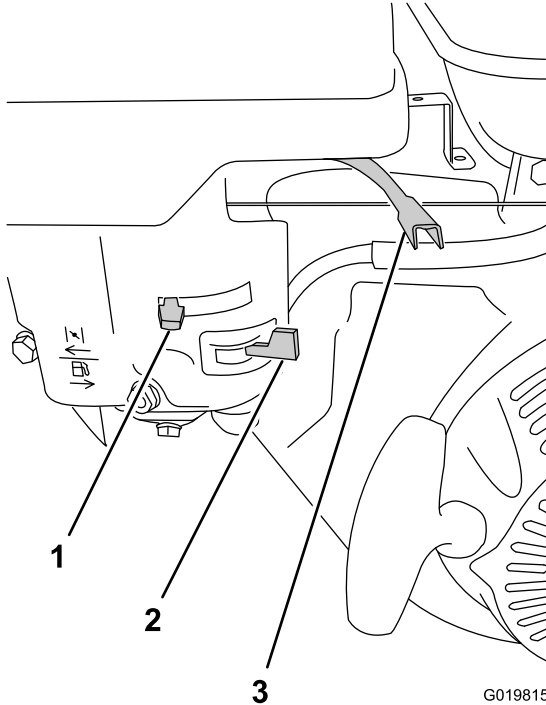

Figure 16
1. On the engine, move the throttle lever away from the Min position, 1/3 of the way toward the Max position (Figure 16); refer to Throttle Lever (page 9).
2. Move the lever of the fuel valve to the On position—all the way to the right (Figure 16); refer to Fuel Valve (page 8).
- To start a cold engine, move the choke lever to the Closed position—all the way to the left (Figure 16); refer to Choke Lever (page 9).
4. Rotate the engine switch to the On position (Figure 16); refer to Engine On/Off Switch (page 9).
1. Ensure that the choke lever is in the Off position (Figure 16); refer to Choke Lever (page 9).
2. Move the throttle lever to the Min position (Figure 16); refer to Throttle Lever (page 9).